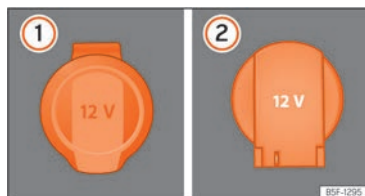

Fig. 134 12 volt power socket: ① in the front armrest, ② in the luggage compartment.
- Lift the power socket cover »» Fig. 134 ①.
- Lift the power socket cover »» Fig. 134 ②.